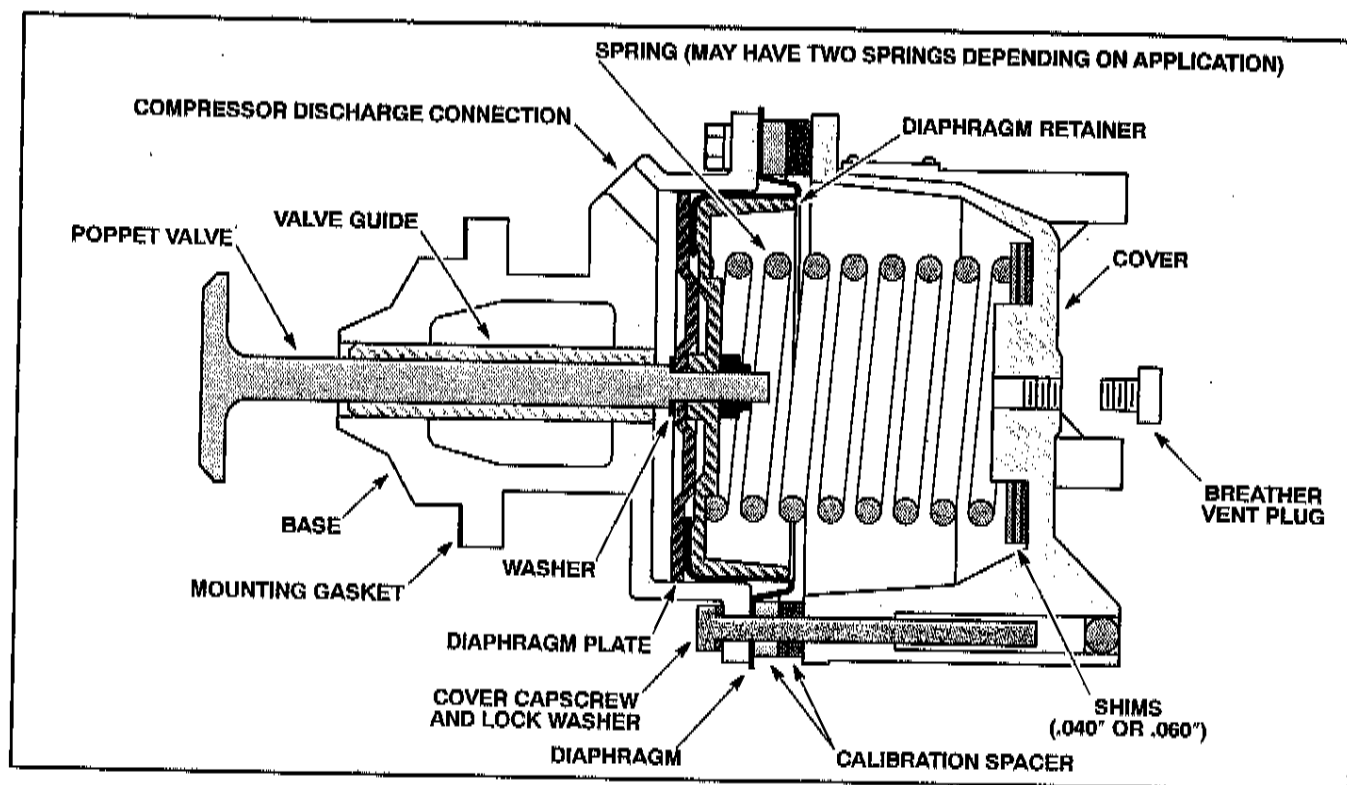

Figure 5.35-20. VHP Wastegate - P/N Series 208372 - Cutaway
7. Remove wastegate cover from base assembly. Remove spacers, spring and shims (see Figure 5.35-20).
3. Inspect valve stem nut, flat washer, diaphragm retainer and plate. Inspect springs, spacers, shims and cover (see Figure 5.35-20). Replace any part that is damaged or excessively worn.
9. Place shims over valve spring seat centered inside wastegate cover (see Figure 5.35-20). Be sure number of shims installed is same as number removed at time of disassembly. If any shims are replaced, be sure to use correct size (see Table 5.35-2).